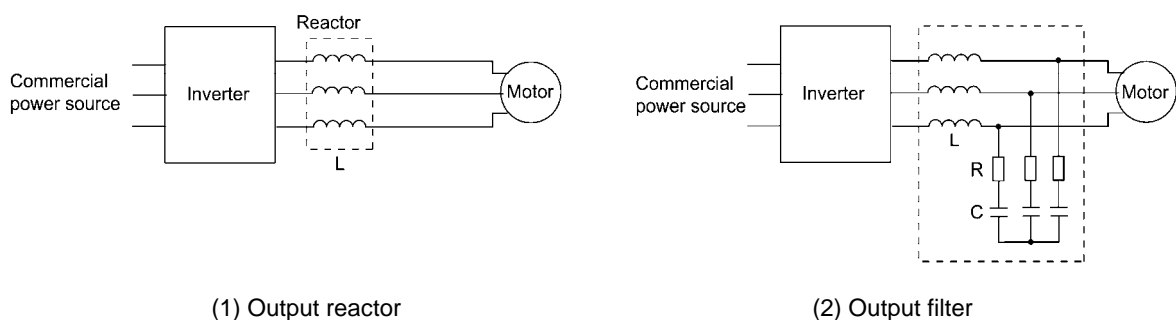

Figure C.3 Method to Suppress Surge Voltage
If wiring length is relatively short, the surge voltages can be suppressed by reducing the voltage rise time ( $dv/dt$ ) with the installation of an AC reactor on the output side of the inverter. (Refer to Figure C.3 (1).)
Installing a filter on the output side of the inverter allows a peak value of the motor terminal voltage to be reduced. (Refer to Figure C.3 (2).)